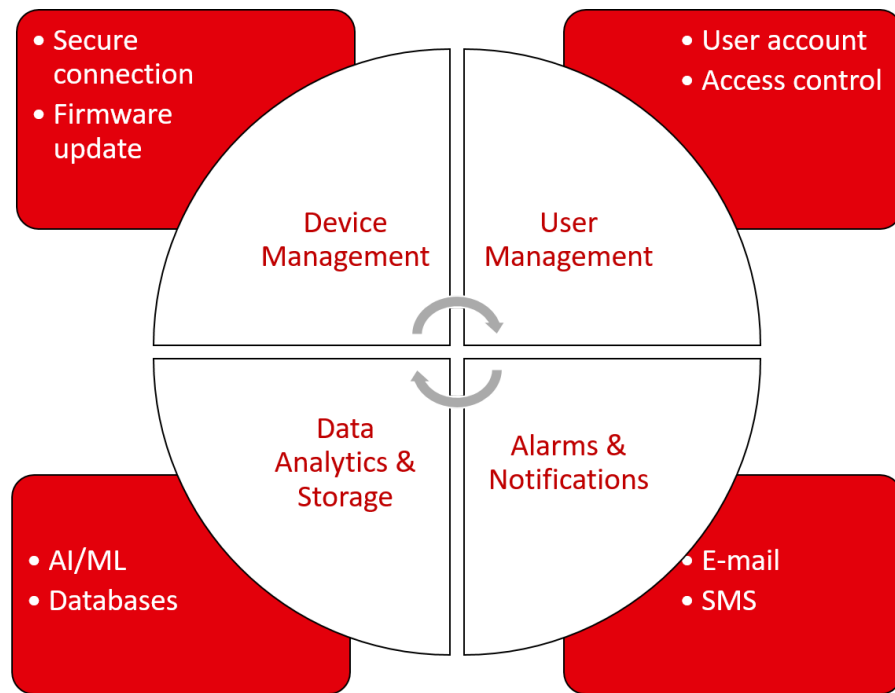

Figure 2: Components of a data platform
- **IoT Data platform:** This is the platform where the data is finally stored and presented for further analysis. Options here can range from a local database to a cloud server with redundancies. A typical platform consists of the components as shown in figure 2. The data platform enables the use of technologies like Artificial Intelligence (AI) and Machine Learning (ML) to perform advanced data analytics that generates value additions to the application.